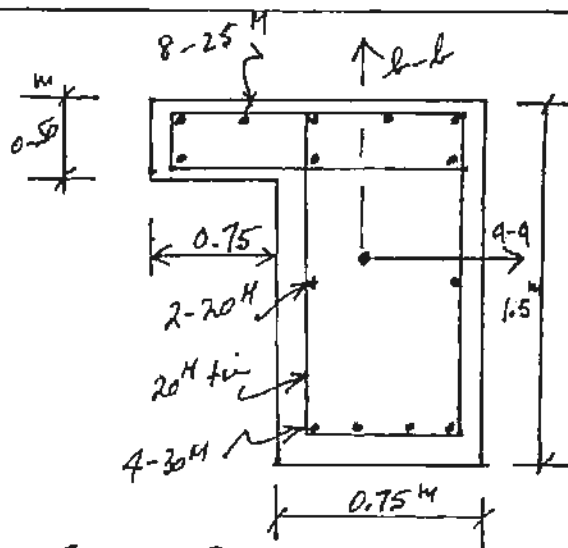

FIGURE B1
- B1. Figure B1 shows the cross-section of a reinforced concrete girder. Calculate the section moments of resistance about the centroidal axes, a-a and b-b.